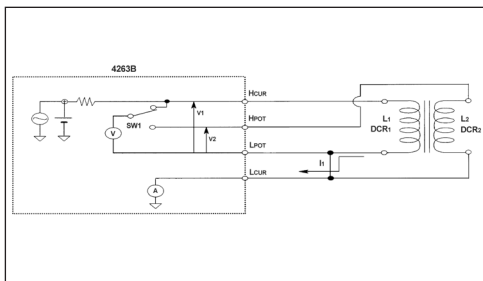

Figure 1. The 4263B block diagram for L, M, and DCR measurement
The 4263B LCR meter is a low price instrument which measures the fundamental parameters of LCR components with speeds as fast as 25ms, at frequencies of 100, 120, 1k, 10k and 100kHz, In addition, with option 001, the 4263B measures turns ratio (N), mutual inductance (M) and dc resistance (DCR) which are required for transformer measurement. Figure 1 shows a 4263B simple block diagram for L, M, and DCR measurement.